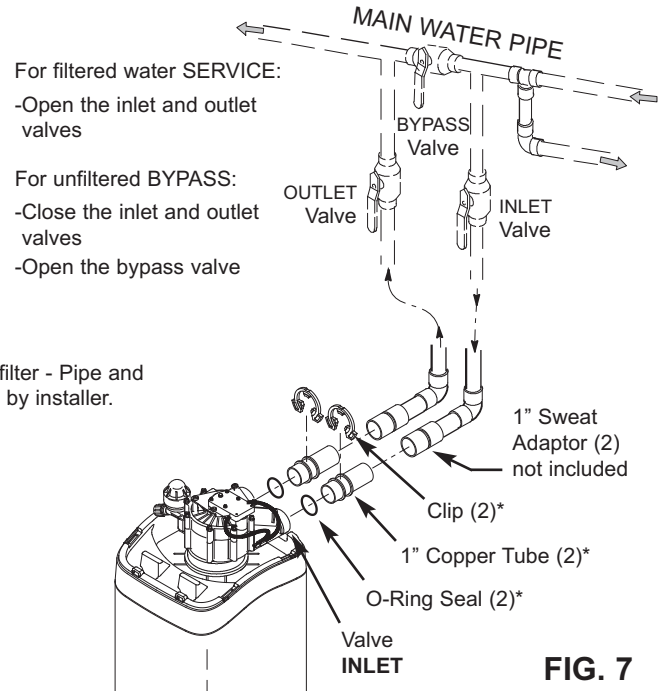

FIG. 7
- b. If installing a 3-valve bypass system, slide plastic installation adaptor and copper tube, with lubricated o-ring seals in place, into the valve inlet and outlet ports, respectively (See Figures 7 & 9).
The house cold water pipe (metal only) is often used as a ground for the house electrical system. The 3-valve bypass type of installation, shown in Figure 7, will maintain ground continuity. If you use the plastic bypass, continuity is broken. To restore the ground, do either step **4a** or **4b** following.
- b. Place bypass valve(s) into "bypass" position. On a single valve, slide the stem inward to BYPASS (See Fig. 8 on page 6). On a 3 valve system, close the inlet and outlet valves, and open the bypass valve (See Fig. 7 on page 6).